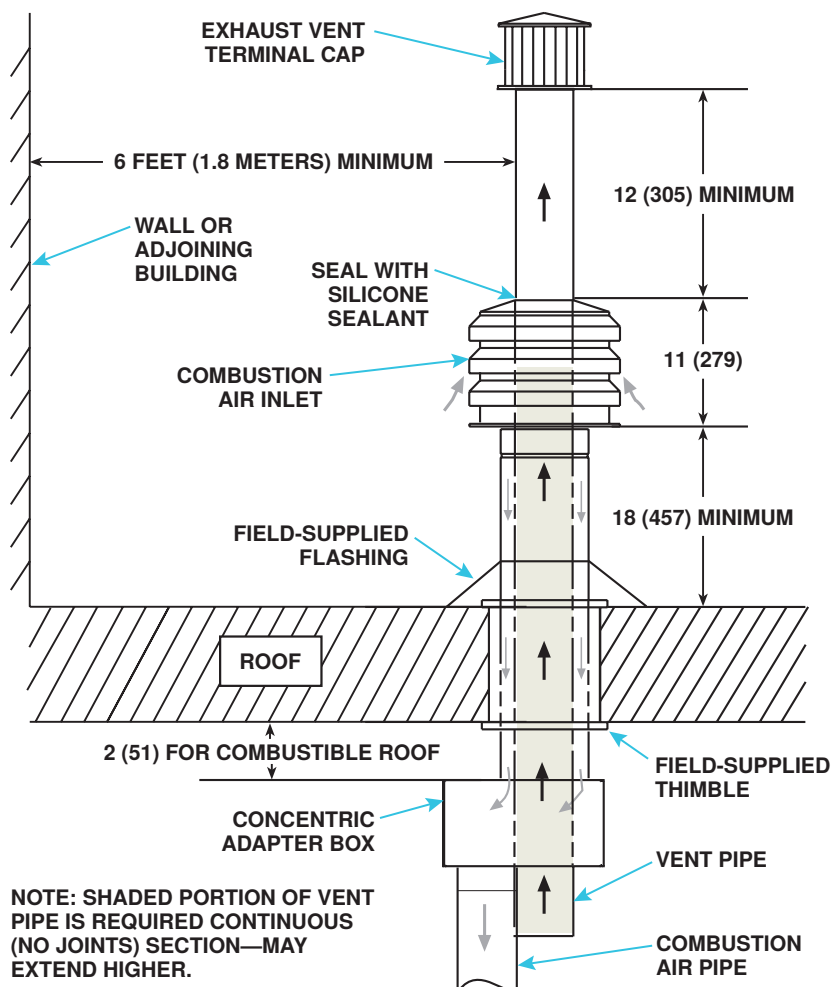

Figure 20. Option CC2 Installation
- b. Select location away from fresh air intakes, allowing space for concentric adapter box inside. Vent terminal must be located away from adjacent buildings as shown in Figure 20.
11. Verify compliance with Figure 20 and with all specific venting requirements listed above.